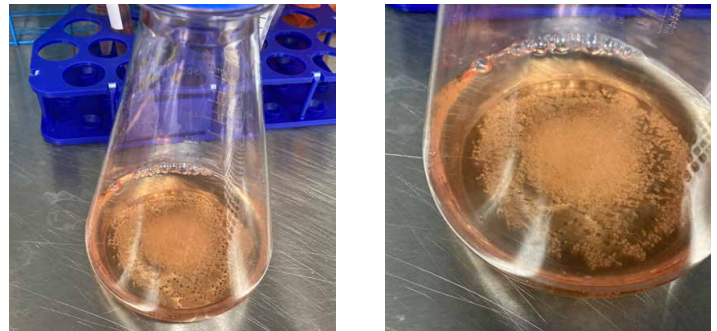

Figure 4. Neural expansion of aggregates. NSC aggregates at day 1 of expansion in a 500 mL flask.
9. Expansion D1 to D8: Perform an 80% medium change with Neural Expansion Medium. Return cells to the orbital shaker at 80 rpm (Figure 4). Perform 80% medium change daily between D2 and D8. Flasks containing aggregates will likely need to be divided 1:2 between expansion D2 and D4 and again between D6 and D8. Monitor medium consumption daily.